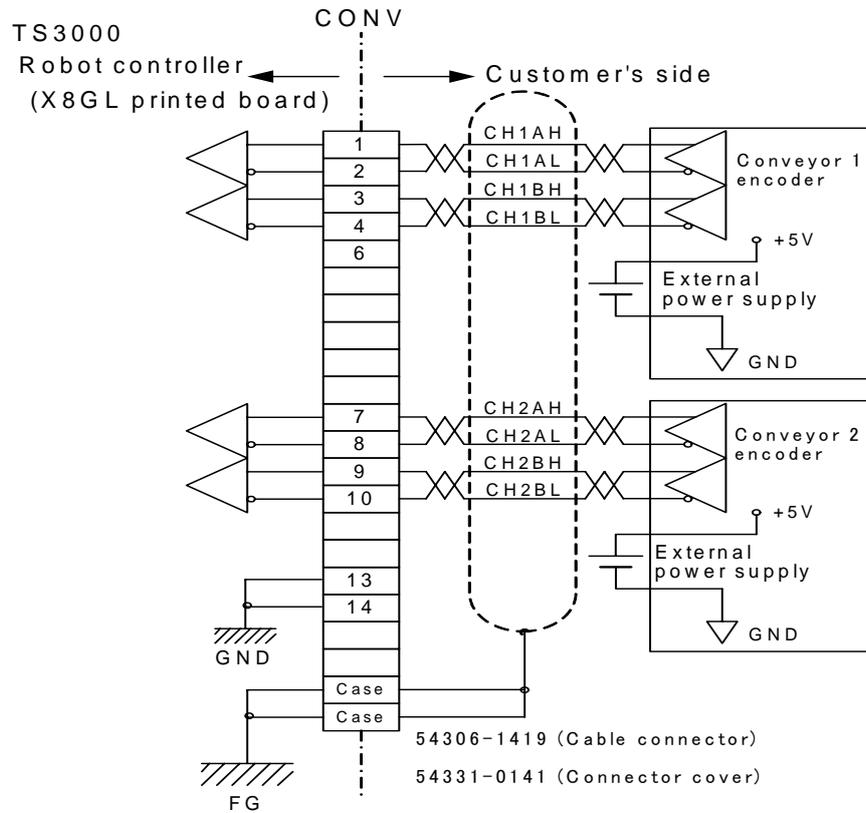
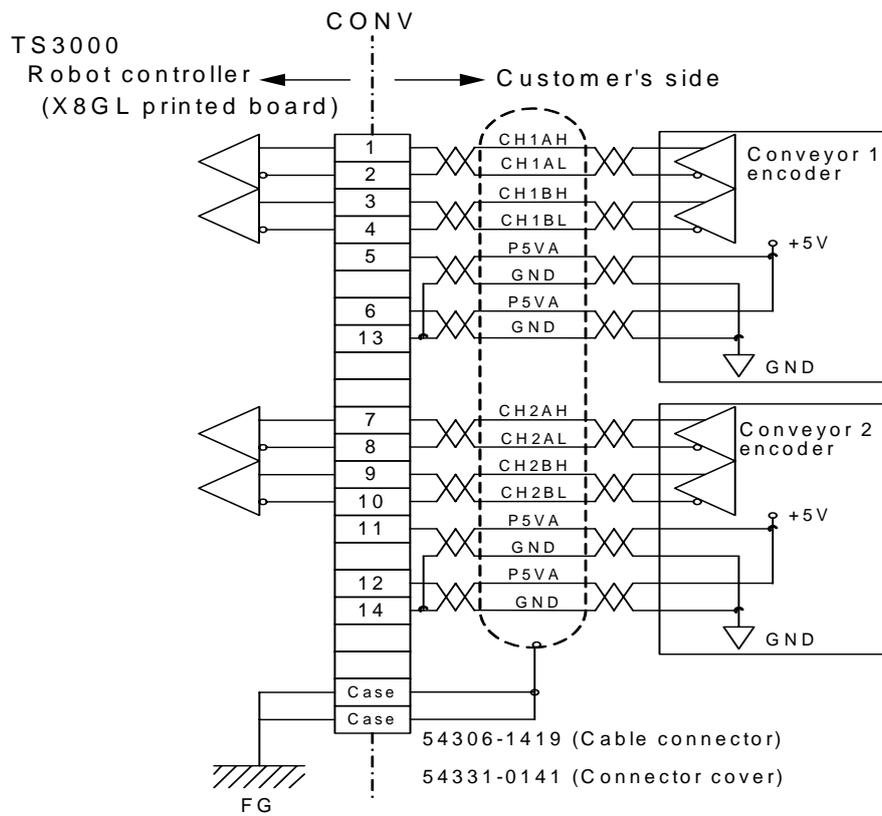

Fig. 2.5 Connection between incremental encoders (when external power supply is used)
Fig. 2.6 Connection between incremental encoders (when internal power supply is used)
Use and connect a shield twisted pair cable as shown in Fig. 2.5 and Fig. 2.6. If it is connected incorrectly, noise resistance deteriorates, causing a malfunction. When the robot controller external power supply is used, connect according to Fig. 2.5. When the internal power supply is used, see Fig. 2.6. (The encoder input comes in two (2) channels. Use them when necessary.)